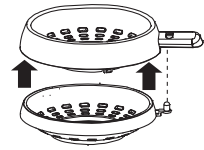

Fig.3
- Attach the lower sieve (E) to the upper sieve (D) (Fig. 3), making sure to insert the adjusting slider (F) into the corresponding slot on the handle of the upper filter (D).